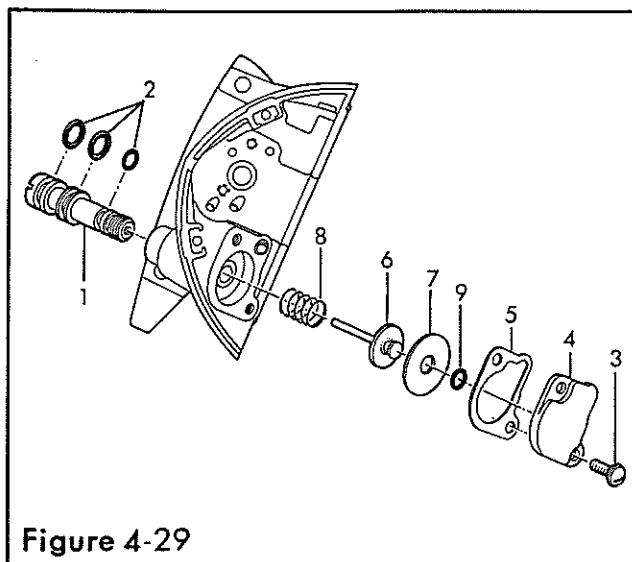

Figure 4-29
The automatic oiler cylinder assembly (1, Figure 4-29) which contains the ball valve, can be removed without further disassembly of the saw. Turn the slotted head of the cylinder assembly counterclockwise to remove it from the tank. If required, the three "O" rings (2) can be removed from the cylinder assembly.
1. Coat the "O" rings (2, Figure 4-29) with SAE 30 motor oil and install them on the cylinder assembly (1). Place the piston ring (7) on the piston (6) and install the "O" ring (9). Coat the "O" ring, the shaft of the piston and the outer diameter of the piston ring with SAE 30 oil.